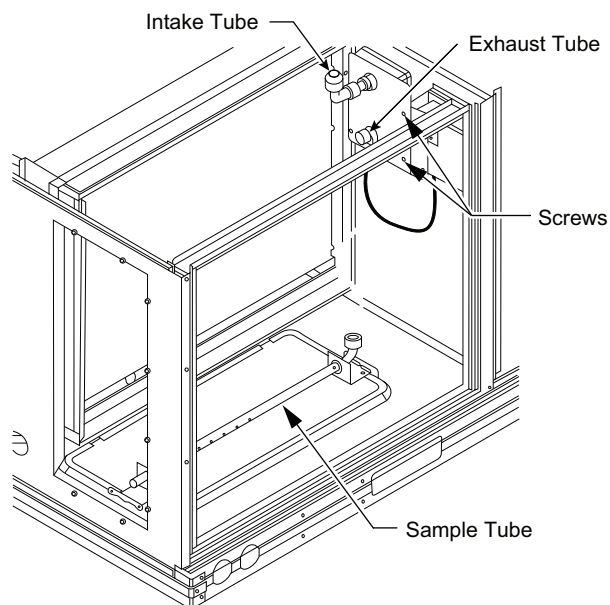

Fig. 47 — Return Air Smoke Detector Shipping Position
1. Unscrew the 2 screws holding the return air sensor detector plate. See Fig. 47. Save the screws.